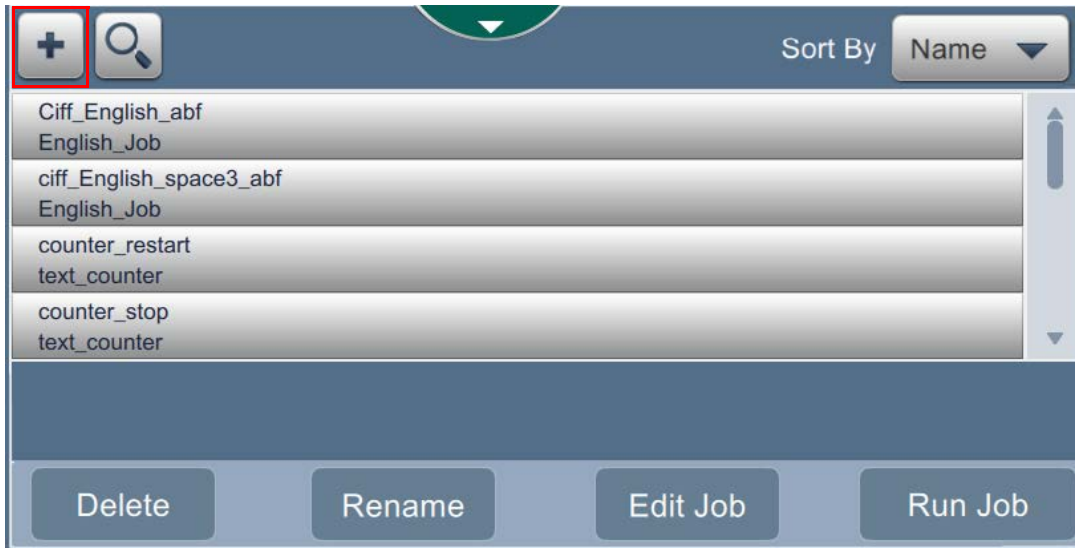

Figure 3-25: Jobs List Screen
2. The Jobs List screen opens as shown in Figure 3-25. Touch the '+' button to create a new job.